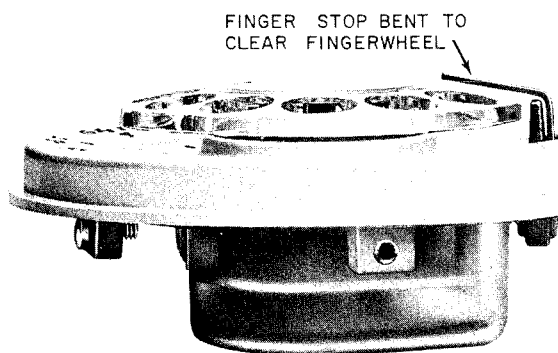

Fig. 14—7-Type Dial With P-11E007 Fingerwheel Installed
*Note:* When replacing a P-19B524 fingerwheel with a P-11E007 fingerwheel, the finger stop must be bent upward to clear the fingerwheel (Fig. 14).